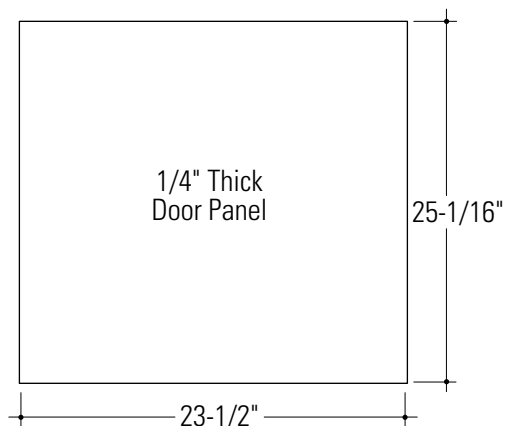

Figure 1
- Cut door panel to the dimensions shown in Figure 1.